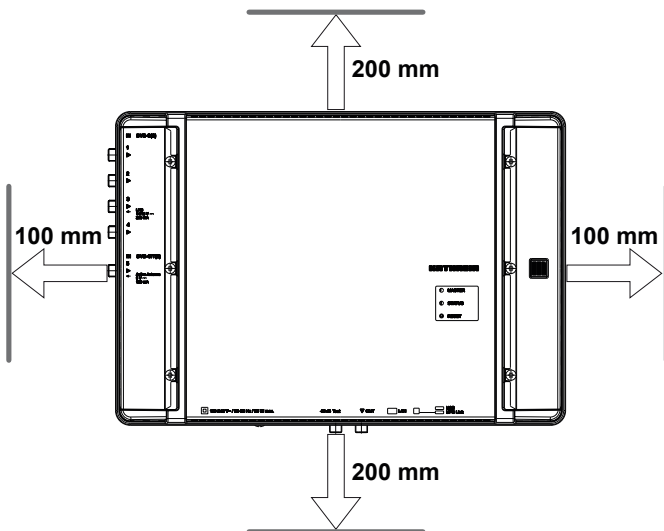

Fig. 2: Allow the necessary clearance for air circulation
- To allow free circulation of air around the device, the clearances shown in Fig. 2 must be ensured.